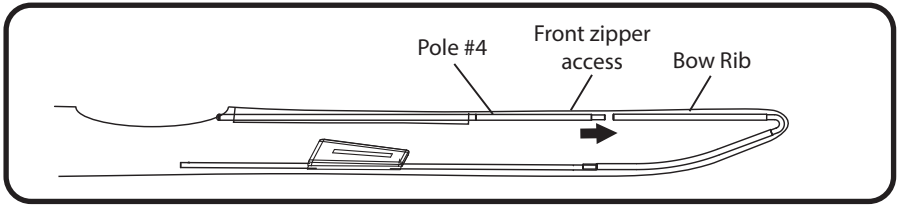

Figure 11
- 10) Slide pole #4 into place by inserting it into the sleeve that runs along the underside of the front deck. Slide pole #4 through this sleeve and connect it with the top portion of the bow rib. See Figure 11.